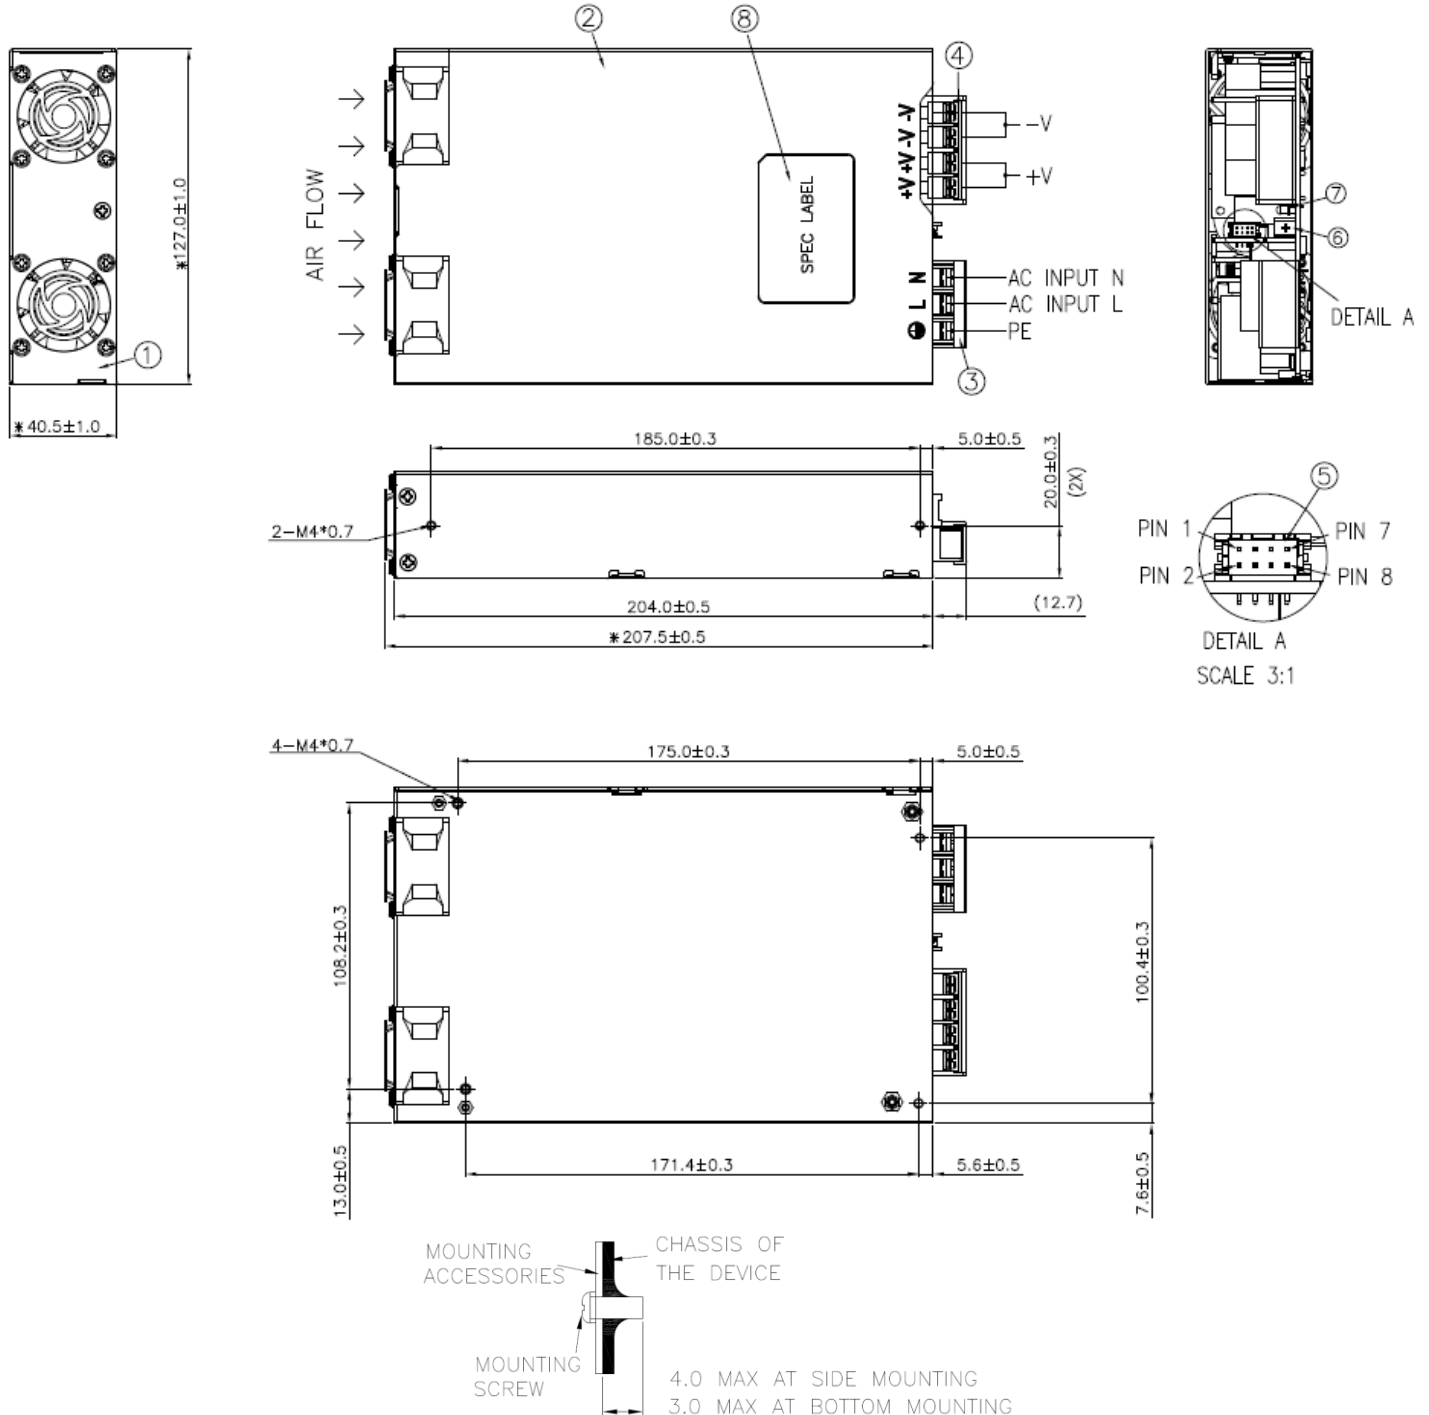

Fig.4
1. Bottom mounting, maximum penetration 3.0 mm from outside face of chassis.(refer to Fig.4)
2. Side mounting, maximum penetration 4.0 mm from outside face of chassis. (refer to Fig.4)